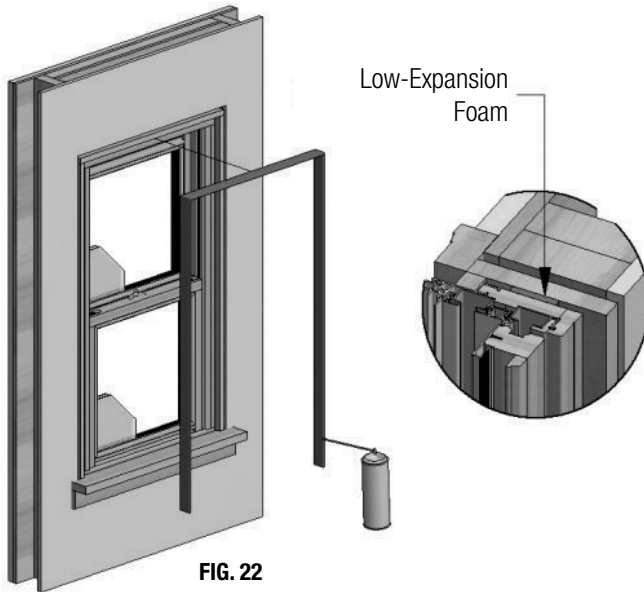

FIG. 22
- D) Spray low-expansion foam on both sides and head of window in between existing and replacement windows. (Fig. 22) **Note: Do not apply low-expansion foam to sill.**